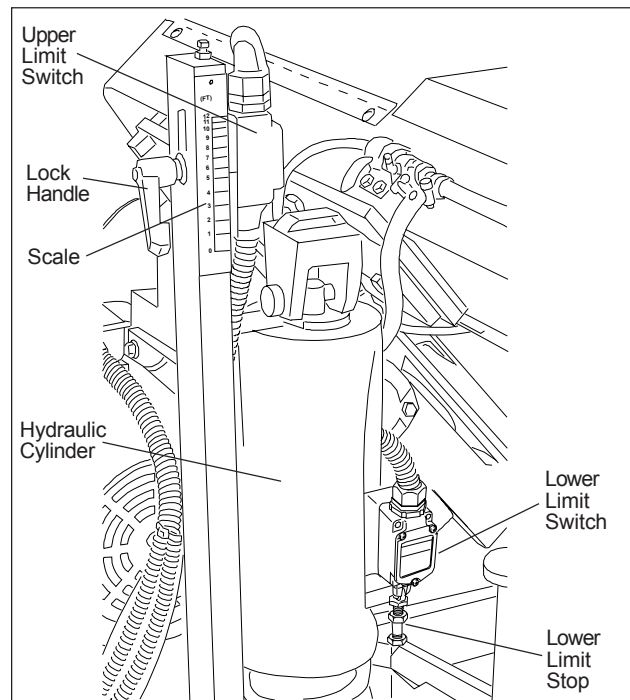

Figure 4: Limit Switches
1. To raise the saw head, press the Saw Head Up pushbutton. The saw head will raise until the upper limit switch (refer to Figure 4) trips.
3. When the saw head is being lowered to cut a workpiece, the saw blade drive motor must be started before lowering the blade against the workpiece. Set the coolant pump selector to the on (I) position. If coolant is required by the material being cut.